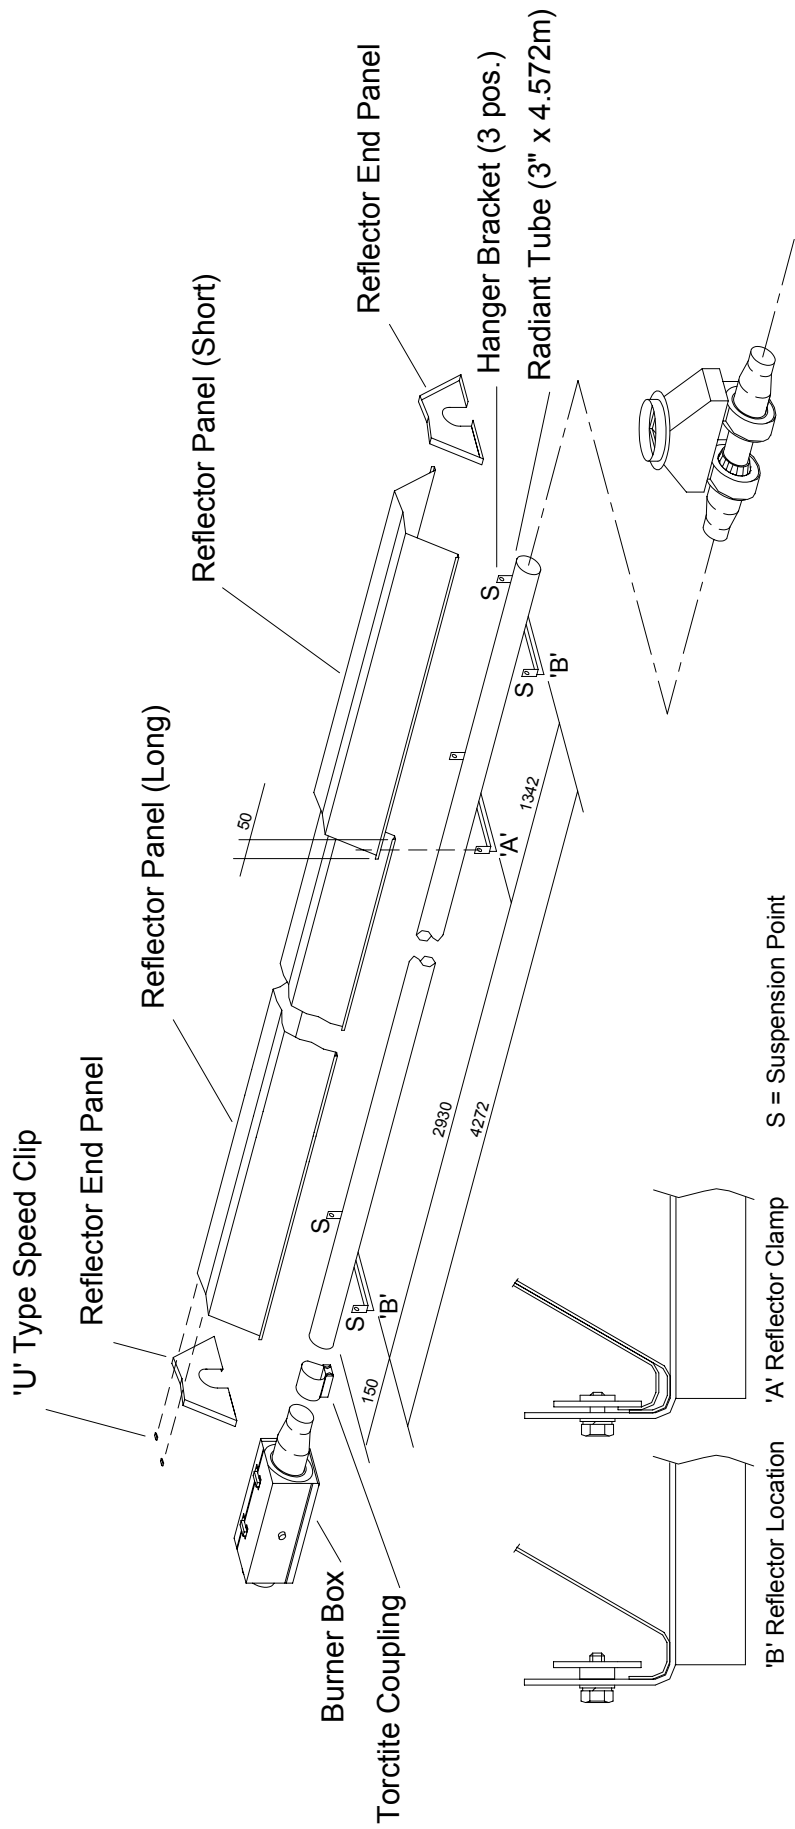

Fig. 9
- 4.1.2 Place the Radiant Tube on trestles, providing 150mm minimum clearance above the floor and assemble the three Hanger Brackets to the Radiant tube using one U bolt per bracket (fastening pack) and position along the Radiant Tubes as shown in Fig. 9. Ensure that the welded seam of the tube is in contact with the Hanger Bracket, i.e. facing away from the reflector. Tighten the nuts sufficiently to retain the Hanger Brackets. Do not overtighten.
- 4.1.4 Place the two Reflector Panels onto the Hanger Brackets and position to provide a 50mm overlap, arranged equally about the inner Hanger Bracket (see Fig 9.). Clamp the two Reflector Panels to the inner Hanger Bracket using two Retainers and M6 setscrews and washers (fastening pack). Screw the remaining (4) Retainers to the two outer Hanger Brackets to provide location for the Reflector Panel ends as shown in Fig. 9.
- 4.1.5 Position one Reflector End Panel over the Radiant Tube and into one end of the Reflector Panels, with the end panel flange flush with the end of the Reflector Panel. Secure the Reflector End Panel to the Reflector Panel by use of six 'U' type speed clips provided (fastening pack): as shown in Fig. 9.
- 4.1.7 The two sections of the appliance should now be raised and suspended from previously fixed chains or drop rods as detailed in Section 3.1., at suspension points indicated in Fig. 9 & 10. Rope or webbing should be used when lifting from above. If using a forklift to position the appliance, ensure that it is balanced on the forks prior to lifting.